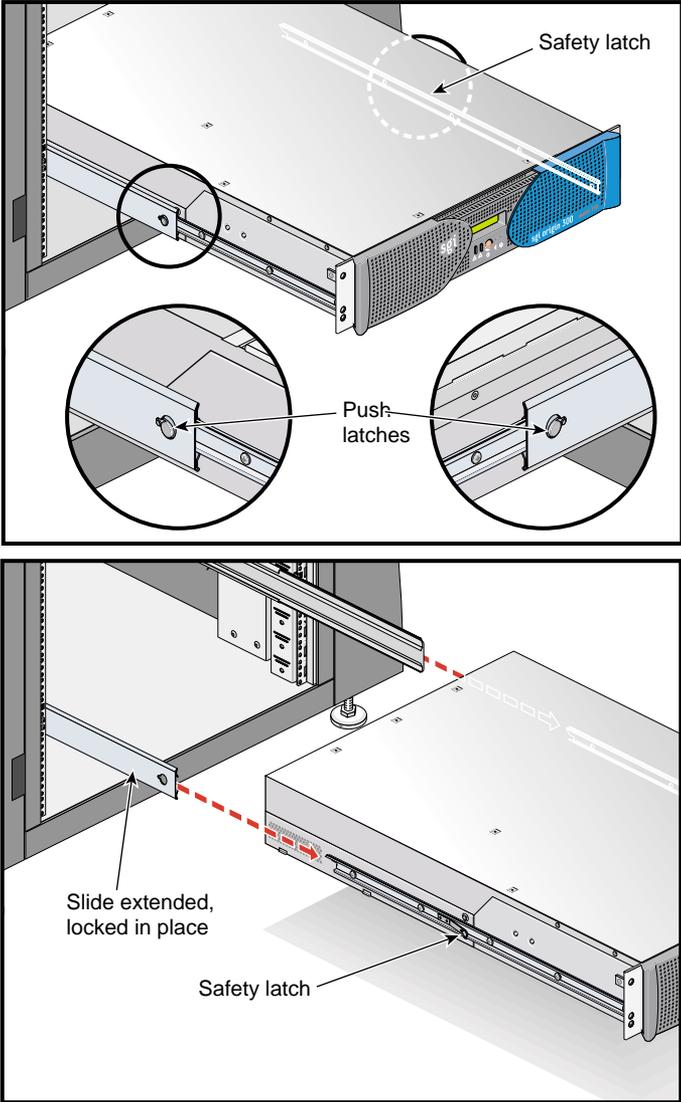

Figure 7-4 Releasing the Safety Latches
- Using two people, depress the locking latches on either side of the module and pull the unit out completely (see Figure 7-4).